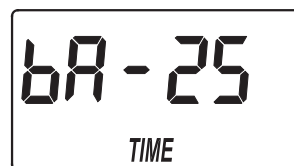

FIG. 23
1. If you completed the previous step, the backwash time adjust screen should show in the display (See Figure 23). Otherwise, press and hold for 3 seconds the SELECT button, until the display shows "000 - -", then press the SELECT button four times to display the backwash time adjust screen.